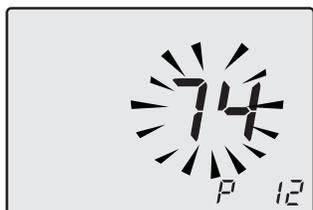

Fig. 7.48
- Scroll the various parameters using keys 17 or 18 until the letters **P12** are displayed on the LCD display and the value of the parameter (74=Activ A Plus 25C, 79=Activ A Plus 30C or 86=Activ A Plus 35C), indicating that "parameter 12" (Fig. 7.48) has been activated.